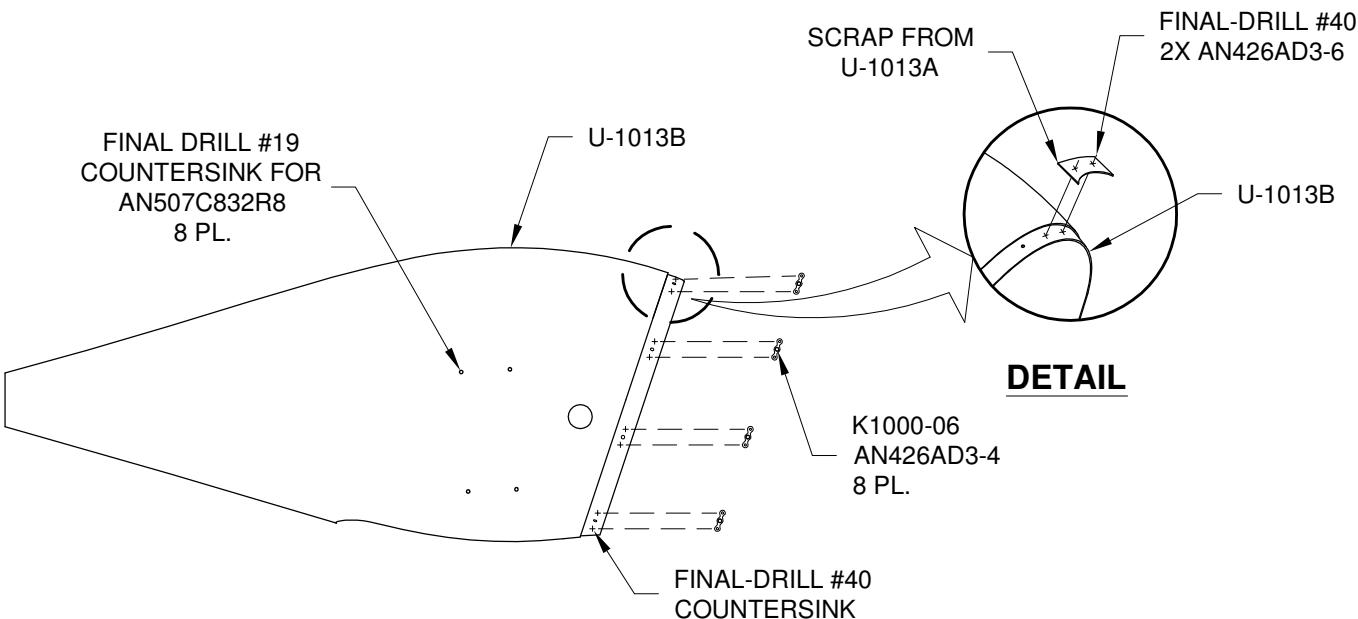
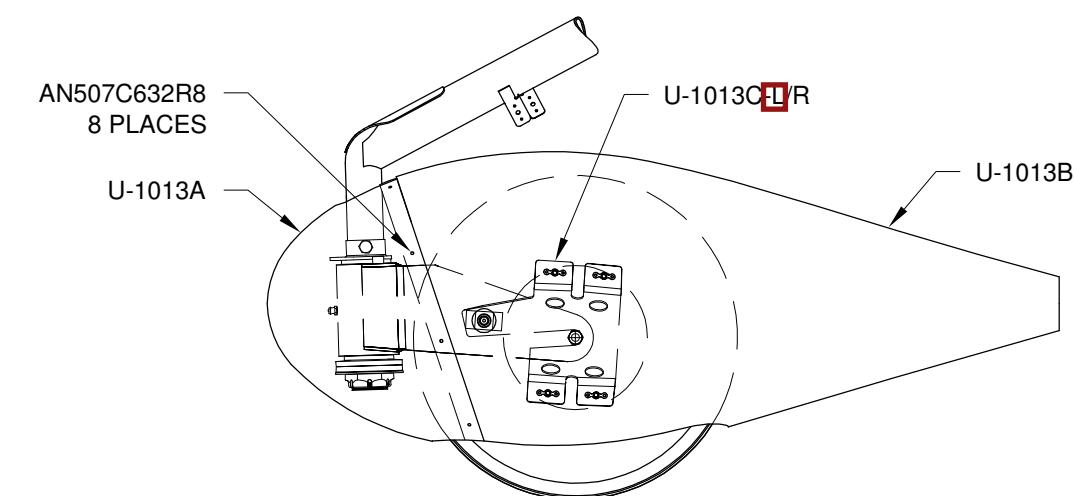

FIGURE 2: RIVETING NUTPLATES TO THE WHEEL FAIRING REAR
FIGURE 4: FINAL FAIRING ATTACHMENT
Step 2: Cut to fit the piece of fiberglass scrap created earlier to serve as a filler and position it on the wheel fairing rear directly behind the WD-1017 Nose Gear Leg. Final-Drill as shown in Figure 2, countersink and rivet it to the wheel fairing rear as shown in the Detail.
Step 4: Slide the U-1013B Wheel Fairing Rear onto the axle at the gap in the washer stack-up. Bolt it to the WD-1030 Nose Fork at the U-1013C_{L/R} Nose Wheel - Fairing Brackets as shown in Figure 4 using the hardware called out on Page 48-17 Figure 2. Attach the U-1013A Wheel Fairing Front to the wheel fairing rear as shown.